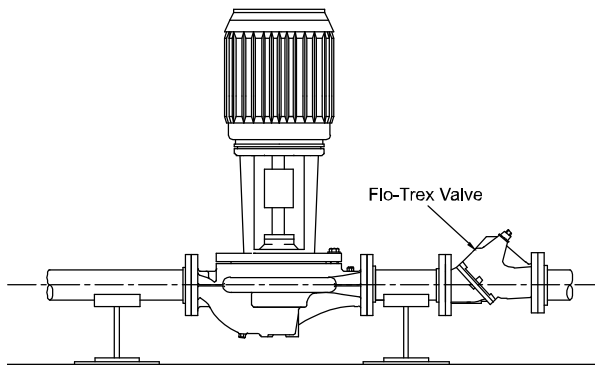

Fig. 2.5 Floor saddle support
- 2.5 Floor mounted saddle supports (Fig. 2.5) are typical for condenser water pumps where cooling tower base is near mechanical room elevation.